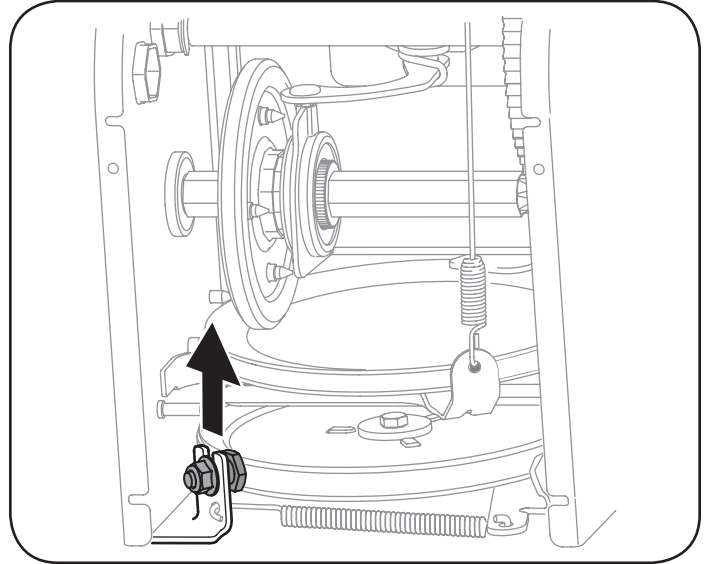

Figure 30
6. Loosen and remove the shoulder screw which acts as a belt keeper. Refer to Figure 30.